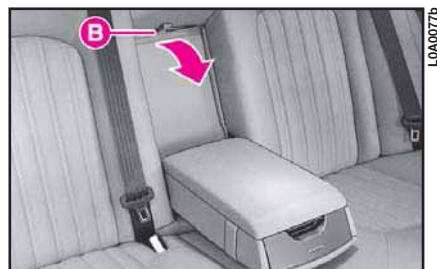

fig. 205
2) Lower the coating by pulling handgrip **B** (fig. 205).